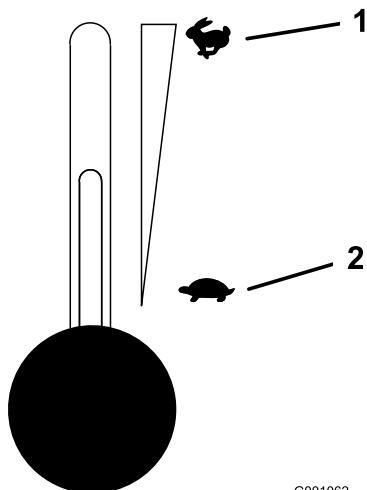

**Figure 11**
- 4. Move the choke control to the on position before starting a cold engine (Figure 11).
7. After the engine starts, move the choke to off (Figure 11). If the engine stalls or hesitates, move the choke back to on for a few seconds, then move the throttle lever to desired setting. Repeat this as required.